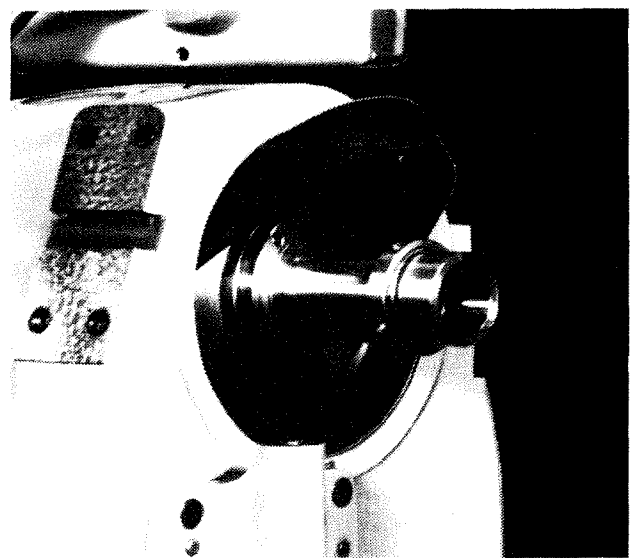

Figure 3.11 - Headstock Belt Removal
25. Pull the headstock belt off the spindle pulley, over the end of the spindle pulley, and out of the headstock, Figure 3.11 .